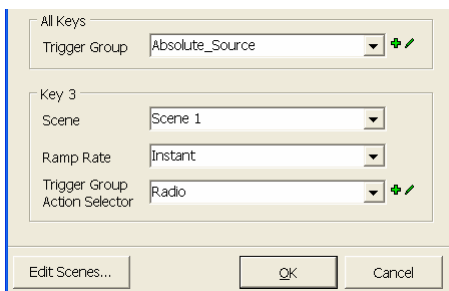

Figure 30 – Defining a scene on a DLT
- ii) Click the  Properties button next to the Function. This brings up the “Define a Scene” panel. If you are using a C-Bus DLT wall switch, you must select a Trigger Group and Trigger Group Action Selector on this panel so you can send labels to the DLT later. Use the Group Address and selector(s) you created in Step 4. An example is provided in Figure 30.